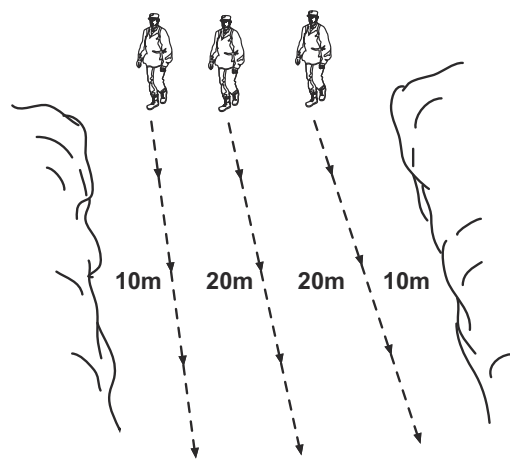

Figure 1-12. Conducting a Bracketing Search.
- Deploy a line of searchers at a maximum of 20 meters apart to the last seen area and move down the slope. See figure 1-12.